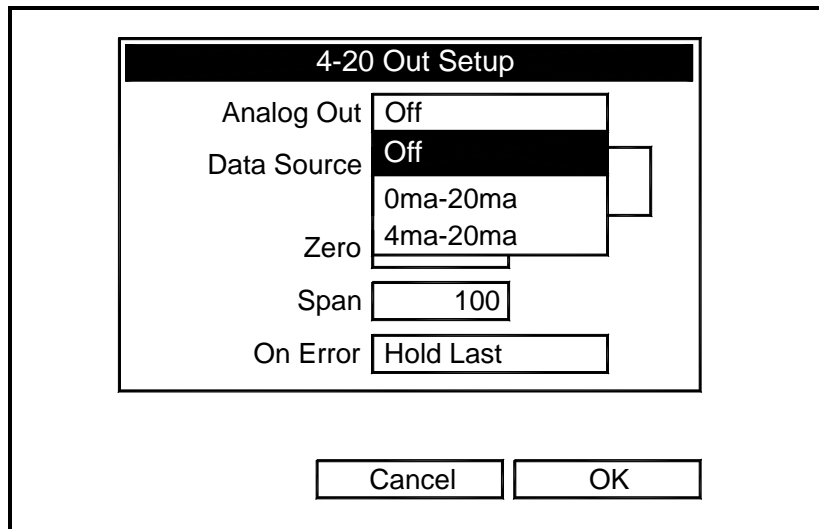

Figure 3-16: Analog Out Selection Window
1. The first prompt enables you to select a range to send a current signal to a recording device (see Figure 3-16 below).